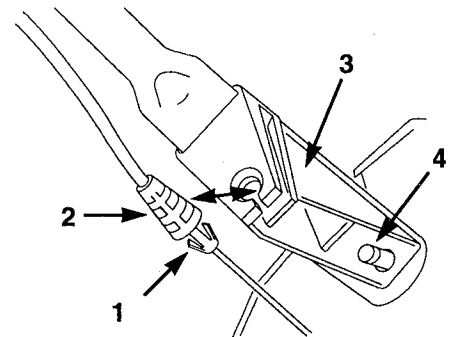

Figure 30
2. Notice where the left side of the handle mounts on the mower. Squeeze the two tabs on the bottom of the cable retainer and remove it from the cable bracket (Fig. 30).
3. Pull the bottom left side of the mower handle inward to remove it from the mounting pin (Fig. 30).
4. Slide the cable bracket off the bottom end of the handle (Fig. 30) and do not re-use the bracket.